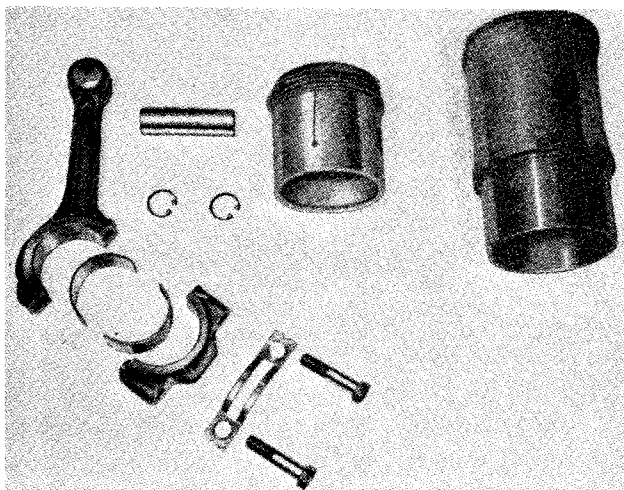
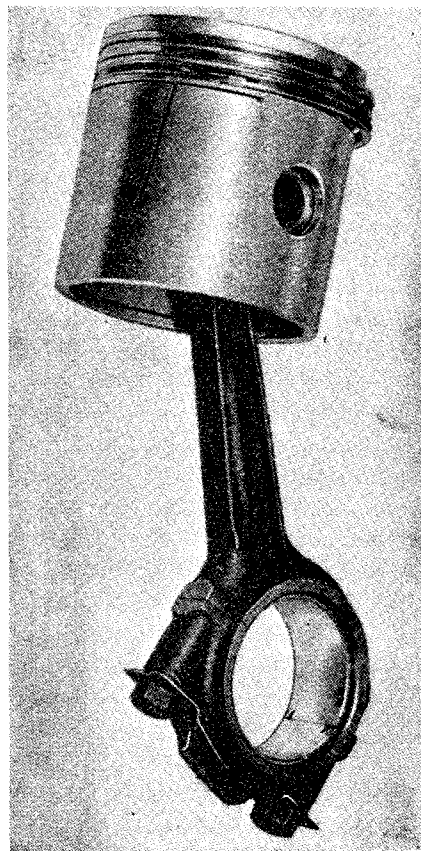

Fig. 6 The Piston and Connecting Rod Assembly in exploded form.
Fig. 7
- (d) **The Connecting Rods** (Fig. 6) are molybdenum manganese steel stampings being provided with phosphor bronze small end bushes and precision type big end bearings. The rod is drilled from the big end bearing end to the small end bearing to provide for the passage of oil under pressure from the main supply. The big end bearing cap is of a special design, the cap securing bolts being inclined at an
- (e) **Aeroflex Compensating Pistons** (Fig 6) are employed, which are made from a special aluminium alloy and each provided with two compression rings and one oil scraper ring. The pistons are graded F, G or H (dimensions on page 2) and this symbol is stamped on the crowns. The piston skirt has a  $\frac{1}{32}$ " slot on the non-pressure side and is fitted to the connecting rod so that this slot is away from the point of maximum thrust, Fig. 7 (facing the camshaft side of the engine).